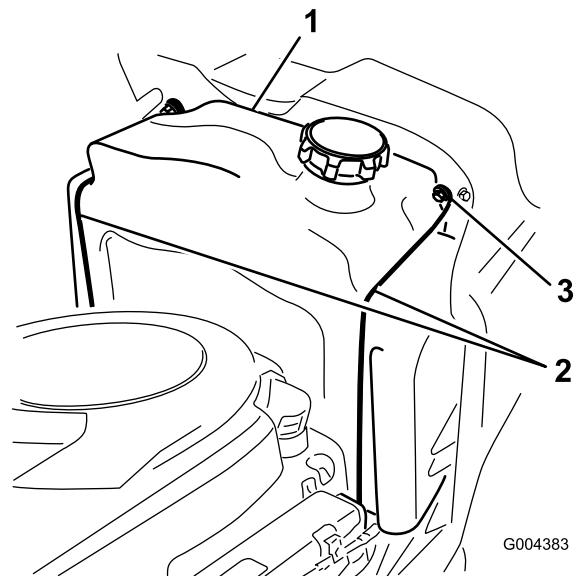

Figure 5
3. Remove the fuel tank mounting hardware (Figure 5).